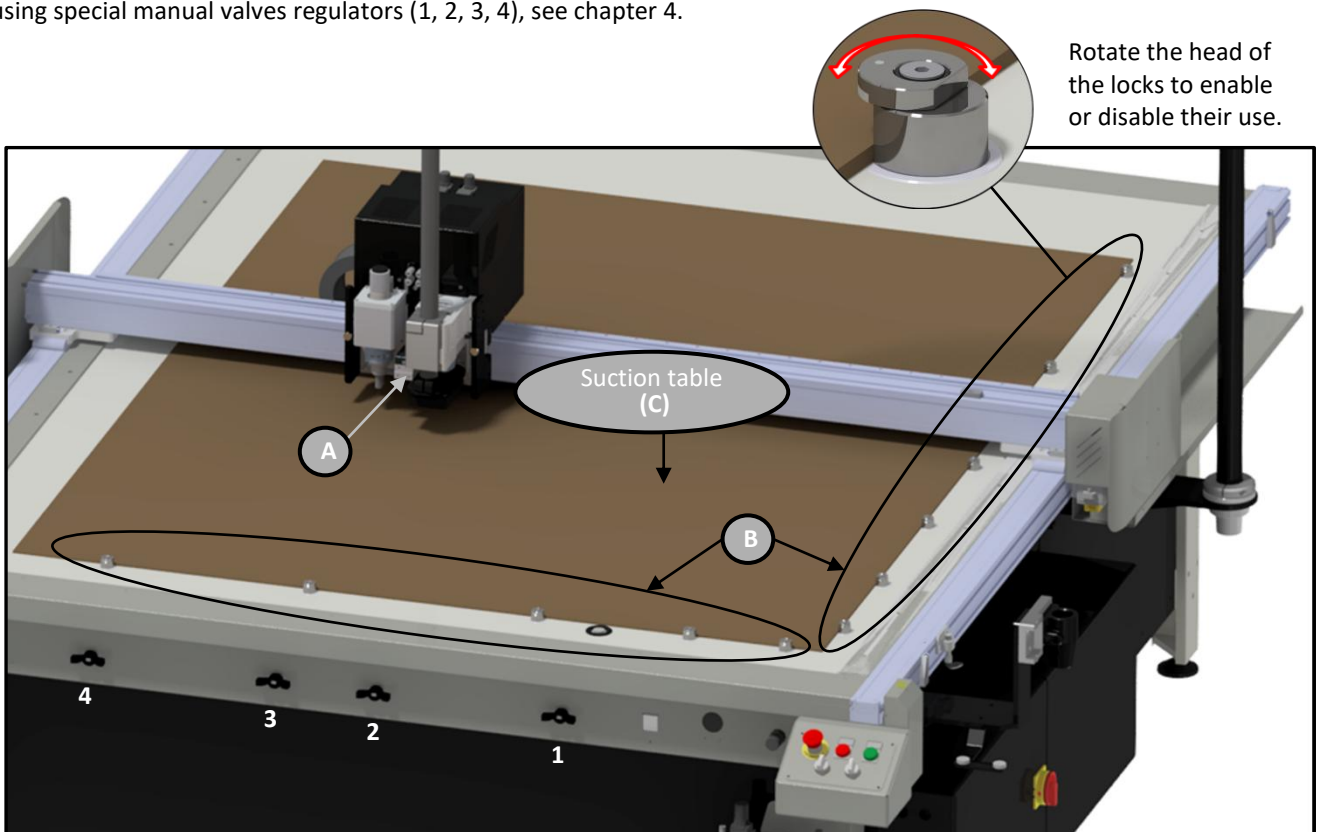

Figure 3-1
Integra can be equipped with a camera (A) Figure 3-1 and a software (**OptiCrop**) for crop mark recognition. This combination of device/software allows to perform contour cut on previously printed materials.